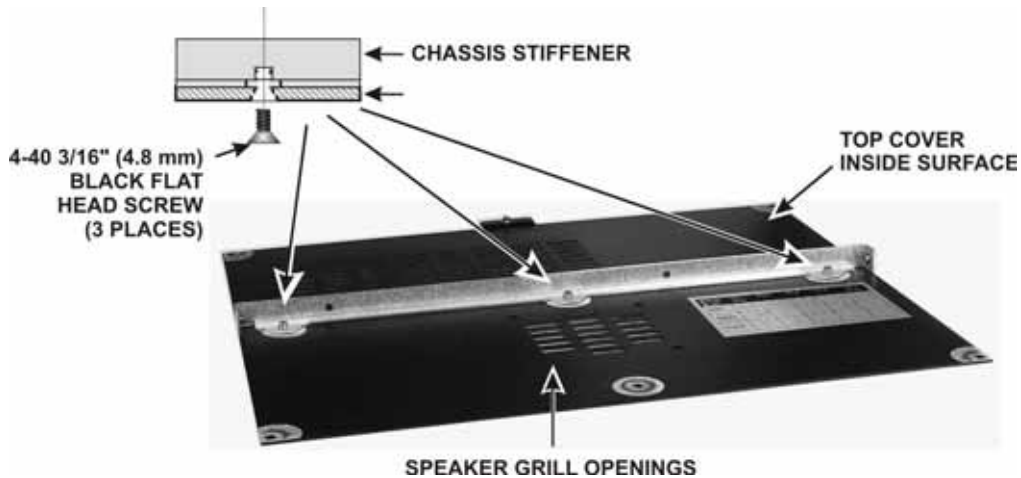

Figure 75. Attaching Chassis Stiffener to Top Cover.
- Mount the chassis stiffening bracket on the underside of the cover as shown in Figure 75. Do not use washers.